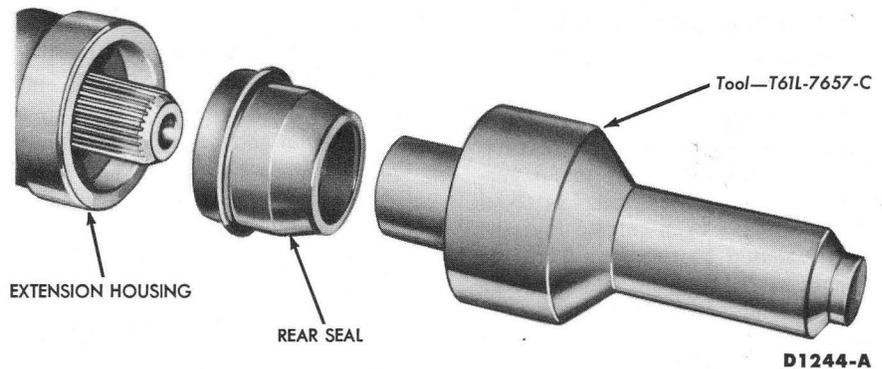

FIG. 3—Extension Housing Seal Installation
7. Drive the seal into the housing with the tool shown in Fig. 3. The seal should be firmly seated in the bore. Install the drive shaft.